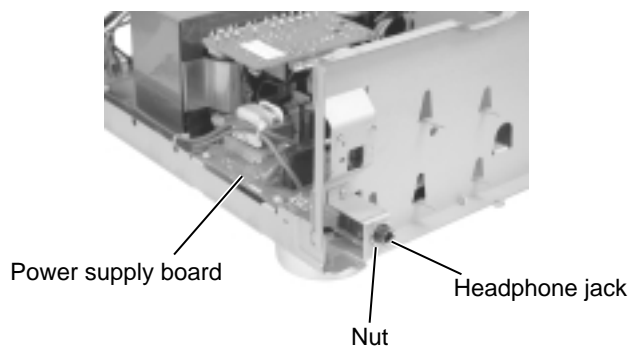

Fig.17
■ Removing the power supply board (See Fig.17 and 18)